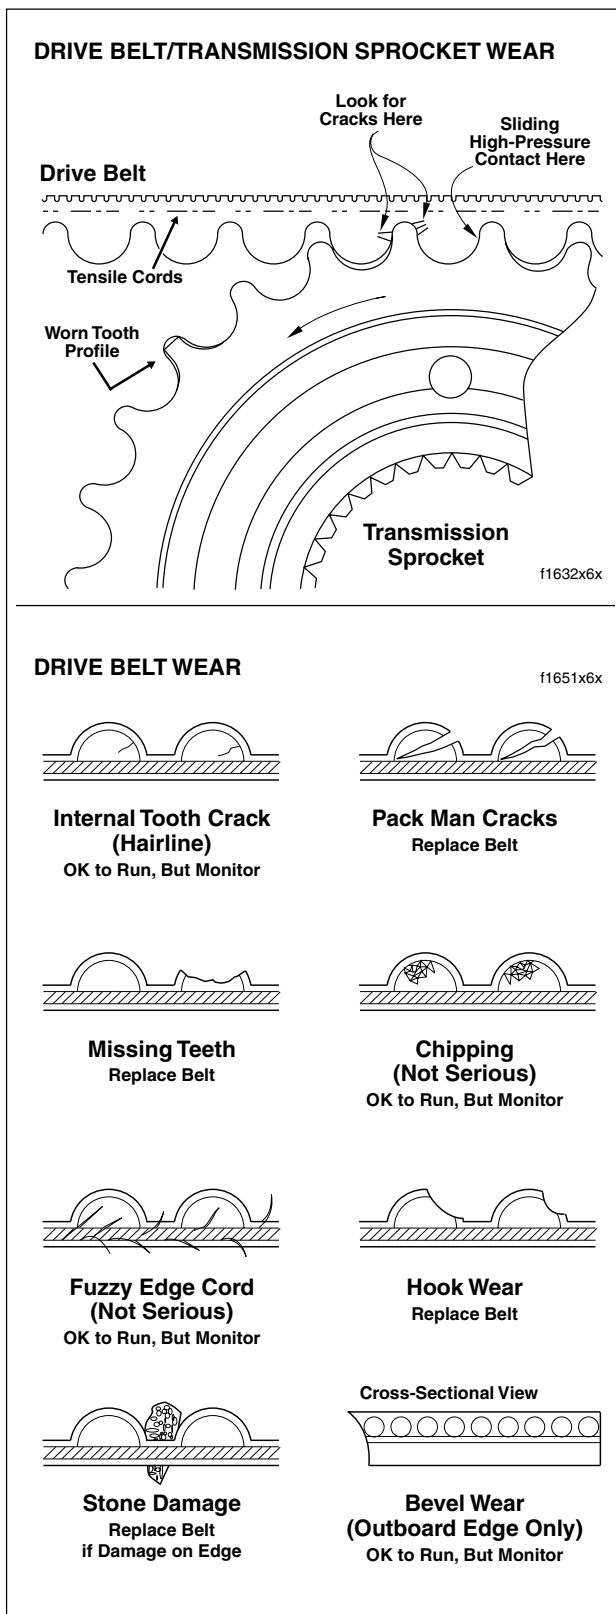

Figure 6-15. Drive Belt/Transmission Sprocket Wear
4. On the inside of the belt, inspect the roots of the belt teeth to see if the tensile cords are exposed. See upper frame of Figure 6-15. The tensile cords are covered by a layer of nylon facing and another layer of polyethylene. Once these layers are worn through, the tensile cords become visible. Visible tensile cords are an indication that the transmission sprocket tooth tip diameter is severely worn. Furthermore, belt failure is imminent, since the tooth tips will continue to scratch away at the tensile cords until the belt is completely worn through.
5. Look for signs of cracking at the base of the belt teeth where contact may be made with the “corners” of worn transmission sprocket teeth. See upper frame of Figure 6-15. Replace the belt if cracking is evident.
6. For common types of belt wear and damage, see lower frame of Figure 6-15.
- Look for “sharp” corners at the top of each sprocket tooth, particularly where the flank joins the top radius. A smooth transition should exist between the flank and radius. While worn teeth will appear to have an edge across the face width of the tooth, heavily worn teeth will have a flat across the top. If the flat is 1/8 inch (3 mm) wide or more, replace the transmission sprocket and drive belt. See upper frame of Figure 6-15.